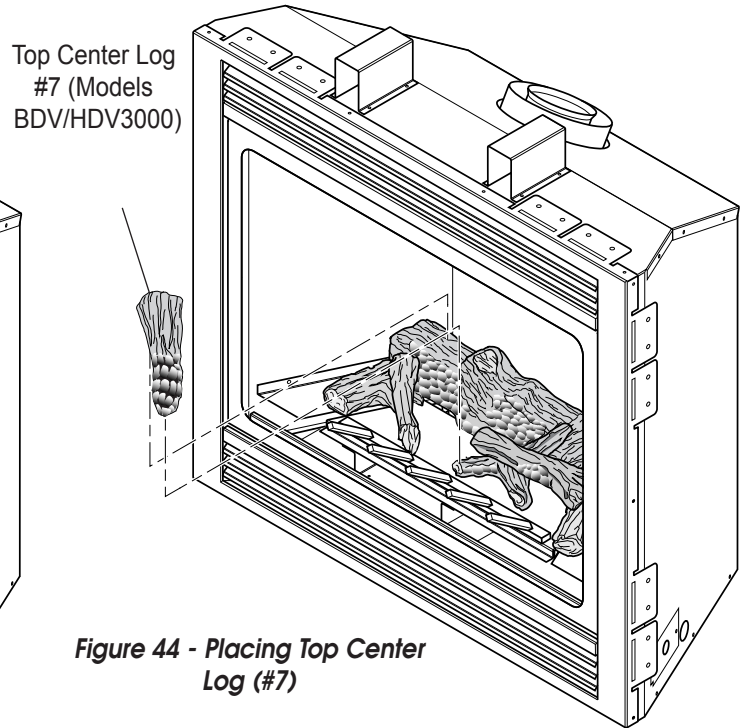

Figure 44 - Placing Top Center Log (#7)
- For models BDV/HDV3000, place top center log #7 on rear log and bottom center log as shown in *Figure 44*.